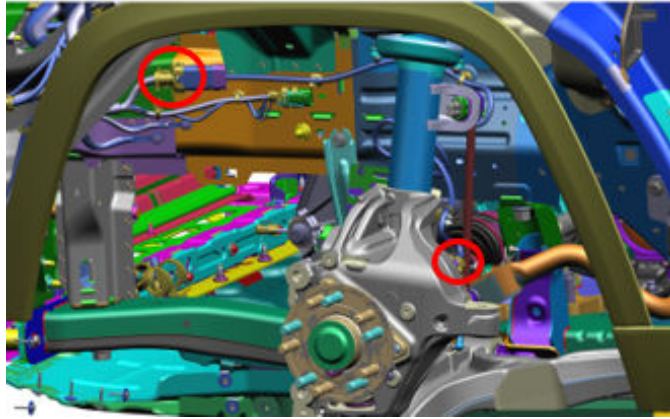

Fig. 5
9. Connect both ends of the new wire harness Fig. 5.